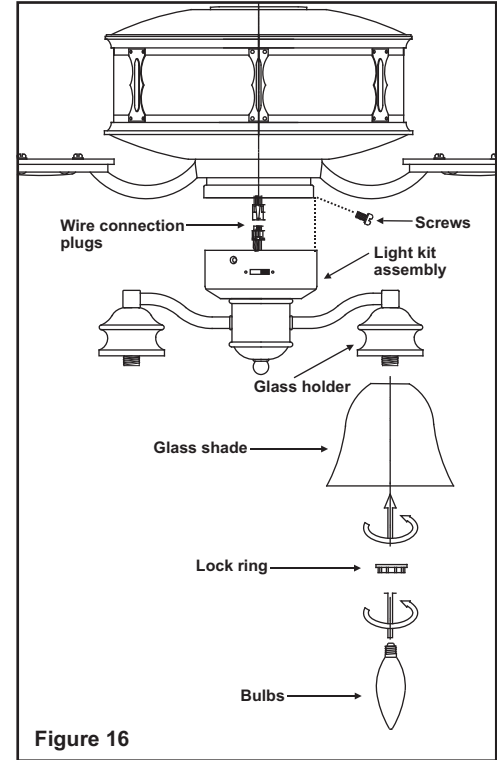

Figure 16
5. Carefully push all wires back into the switch housing, then install the light kit assembly onto the mounting plate with 4 screws provided. Be sure to tighten all screws. (Fig. 16)
6. Remove the lock ring from the socket by turning the lock ring counter-clockwise Until it unlocks. Insert the glass into the glass holder and turn the lock ring clockwise to tighten the glass. Repeat for the remaining glass. (Fig. 16)